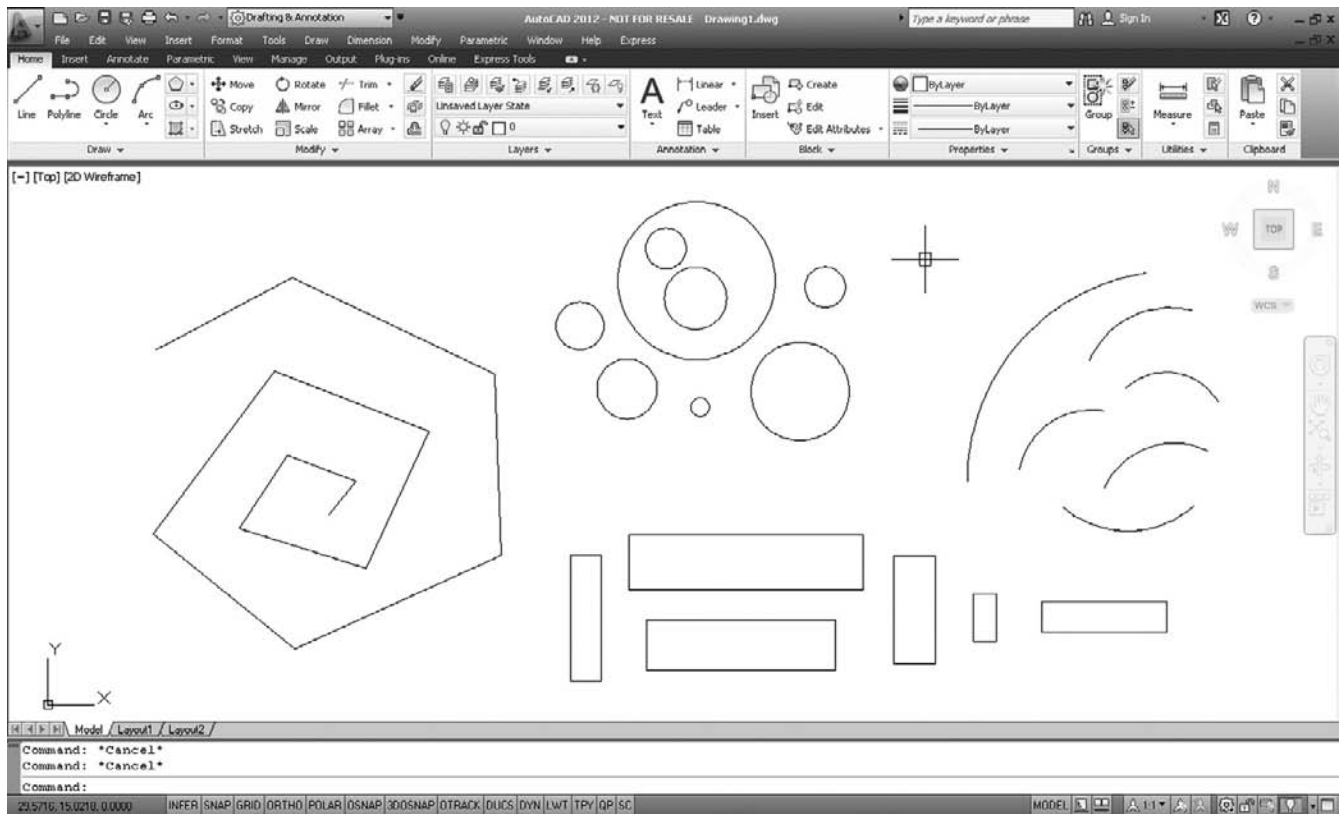

FIGURE 1.19
- Step 3.** Left-click one more time to finish the command. Your screen should look more or less like Figure 1.19.